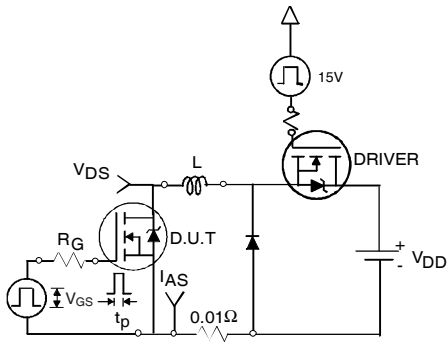

Fig 12a. Unclamped Inductive Test Circuit
- ③ Pulse width $\leq 1.0ms$; duty cycle $\leq 2\%$.
- ④ $C_{oss\ eff.}$ is a fixed capacitance that gives the same charging time as C_{oss} while V_{DS} is rising from 0 to 80% V_{DSS} .
- ⑤ Limited by T_{Jmax} , see Fig.12a, 12b, 15, 16 for typical repetitive avalanche performance.
- ⑥ This value determined from sample failure population. 100% tested to this value in production.
- ⑦ When mounted on 1" square PCB (FR-4 or G-10 Material).
- ⑧ R_θ is measured at T_J approximately 90°C .
- ⑨ Calculated continuous current based on maximum allowable junction temperature. Package limitation is 42A.
3. Equation below based on circuit and waveforms shown in Figures 12a, 12b.